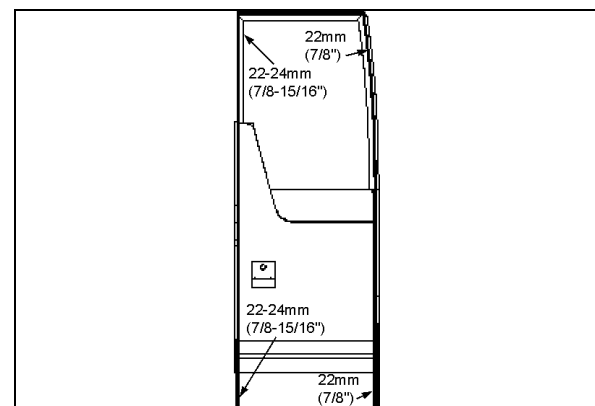

FIGURE 25: SEAL COMPRESSION ADJUSTMENT
- From the outside of vehicle, insert a straight edge in the gap along the door outside perimeter. Measure the distance between the door frame and the door outside surface at the door four corners (refer to figure 25).